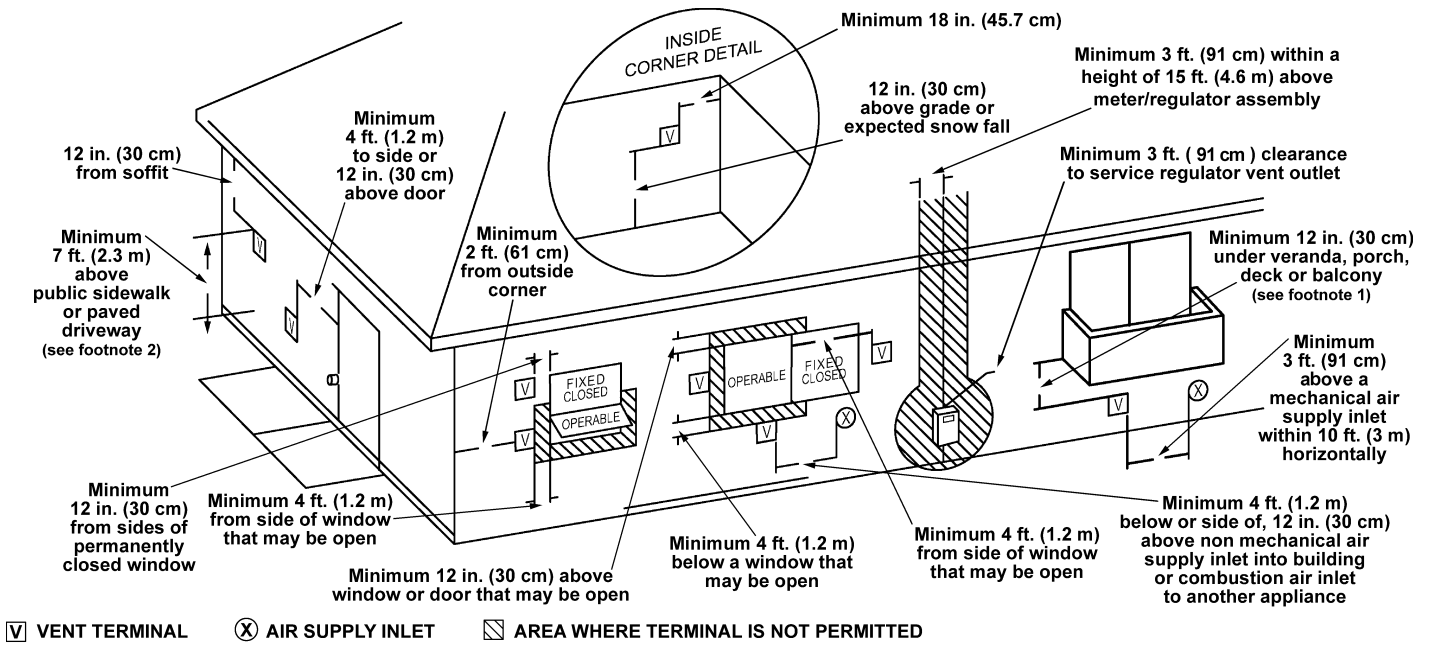

FIGURE 16.
1. The exit terminals of a mechanical vent system shall be not less than 7 feet (2.13 m) above grade when located adjacent to public walkways, see Figure 16.
2. A venting system shall terminate at least 3 feet (0.91 m) above any forced air inlet located within 10 feet (3.1 m), see Figure 16.
The vent shall terminate a minimum of 12" (30.5 cm) above expected snowfall level to prevent blockage of vent termination, see Figure 16.
4. In cold climates, it is recommended that vent termination not be mounted directly above or within 3 feet (0.91 m) horizontally from an oil tank vent or gas meter to avoid potential freeze-up from condensation, see Figure 16..